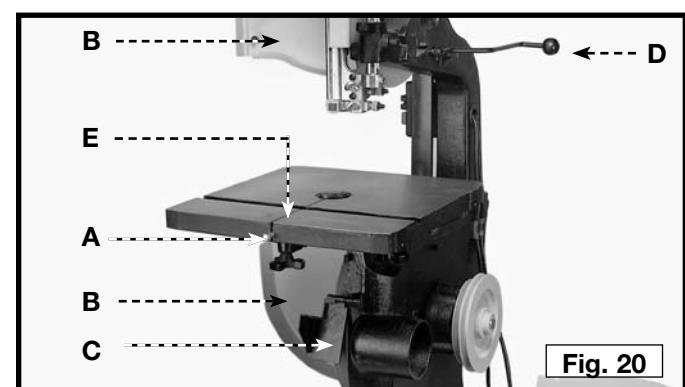

Fig. 20
1. Remove the table pin (A) Fig. 20 from the table.
2. Open the two wheel guard doors (B) Fig. 20 and the blade guard door (C).
3. Confirm that the quick tension lever (D) Fig. 20 is positioned to the left of the machine.
4. Slide the band saw blade, (teeth facing out), through the slot (E) Fig. 20 in the band saw table.
6. Replace the table pin (A) Fig. 20.
7. Close the two wheel-guard doors (B) Fig. 20 and the blade guard door (C).
8. Move the quick tension lever (D) Fig. 20 to the right .